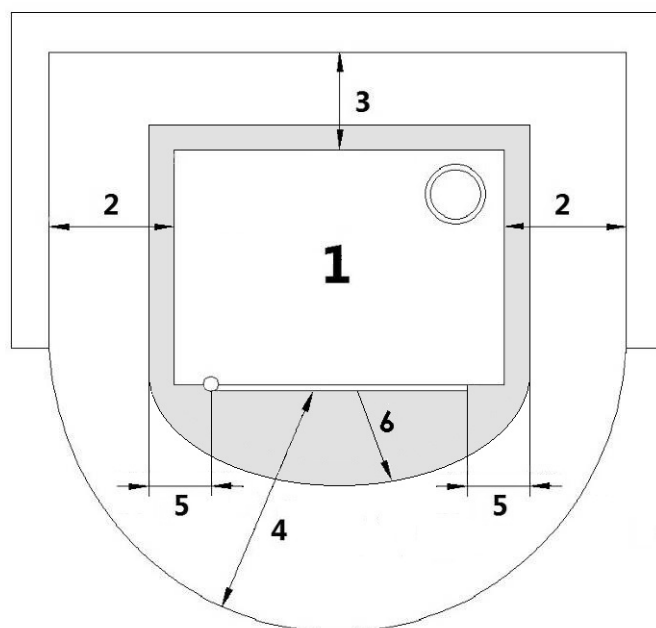

Fig. 13 - General installation
LEGEND	Fig. 13
- For fire regulations distances from flammable or sensible to heat materials must be respected (sofas, pieces of furniture, wood coatings etc...) as described in **Fig. 13**].
- If the floor is made up of flammable material, an unburnt material cover must be realized (steel plate, refractory, marble...). For cover dimensions see **Fig. 13**.